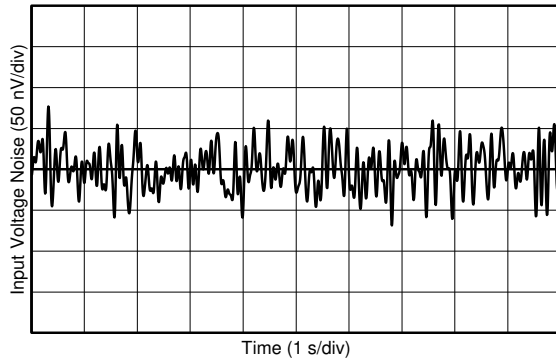

Figure 6-15. 0.1-Hz to 10-Hz Noise
0.1-Hz to 10-Hz Noise	<a href="#">Figure 6-15</a>